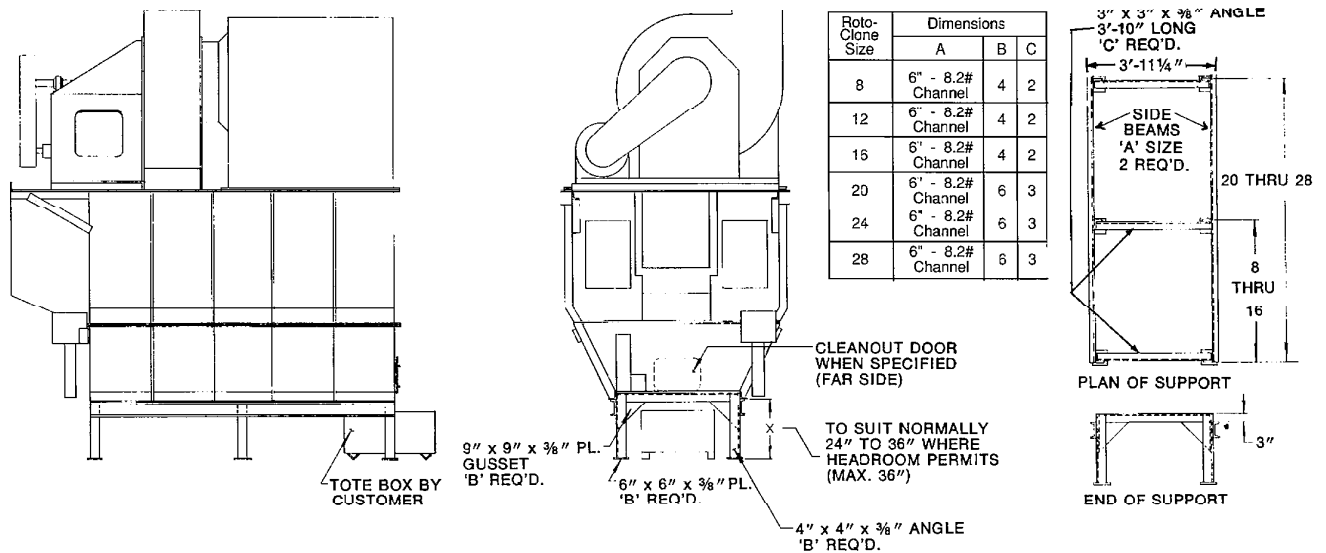

Fig. 2 Typical support to elevate Type 'N' Model 'B' RotoClone, Arrangement B.
2. Where headroom permits, elevation of RotoClone above floor will facilitate cleanout, especially where cleanout door Figure 2 is provided. Height of supports will vary with tote box used for collected material. One typical method of support is shown in Figure 2.